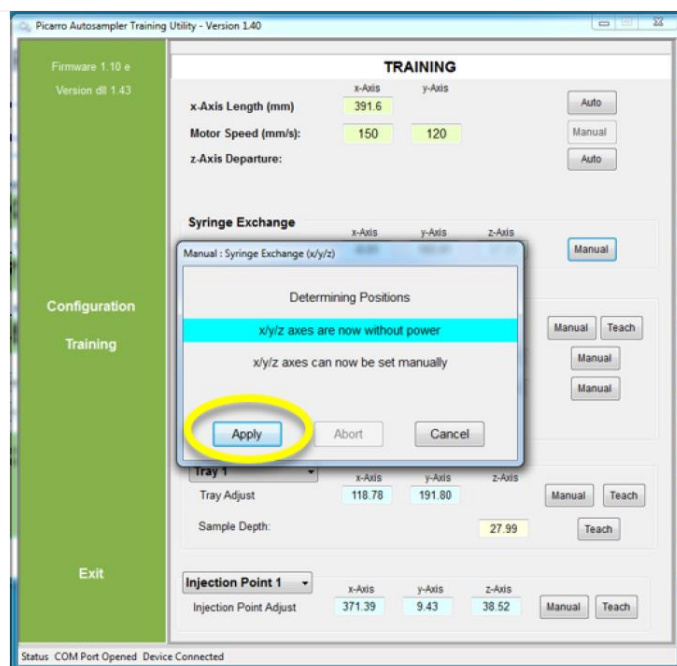

Figure 135. Click apply for Syringe Exchange.
STEP 15 | Return to the application and click “**Apply**” on the pop up window to activate the test run of the Syringe Exchange manual setting (Figure 135).